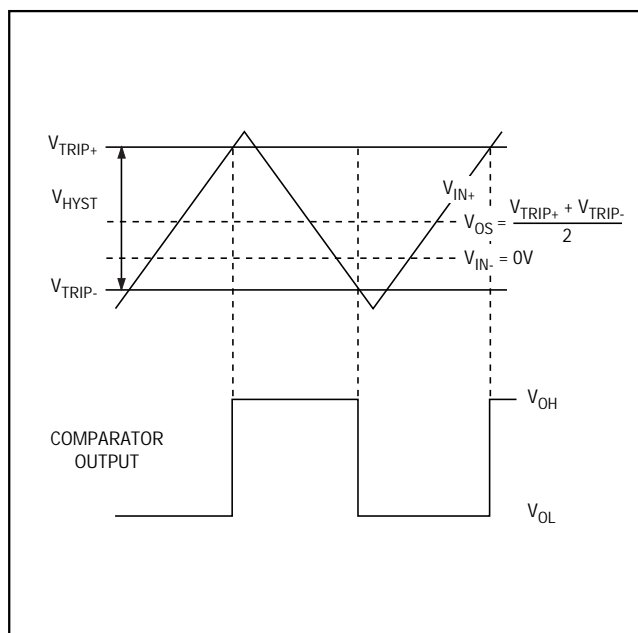

Figure 1. Input and Output Waveform, Noninverting Input Varied
- Note 2:** The input-referred trip points are the extremities of the differential input voltage required to make the comparator output change state. The difference between the upper and lower trip points is equal to the width of the input-referred hysteresis zone. See Figure 1.
- Note 3:** VOS is defined as the center of the input-referred hysteresis zone. See Figure 1.
The hysteresis in a comparator creates two trip points: one for the rising input voltage and one for the falling input voltage (Figure 1). The difference between the trip points is the hysteresis. When the comparator's input voltages are equal, the hysteresis effectively causes one comparator input voltage to move quickly past the other, thus taking the input out of the region where oscillation occurs. Standard comparators require hysteresis to be added with external resistors. The MAX941/MAX942/MAX944's fixed internal hysteresis
Figure 1 illustrates the case where  $IN_-$  is fixed and  $IN_+$  is varied. If the inputs were reversed, the figure would look the same, except the output would be inverted.